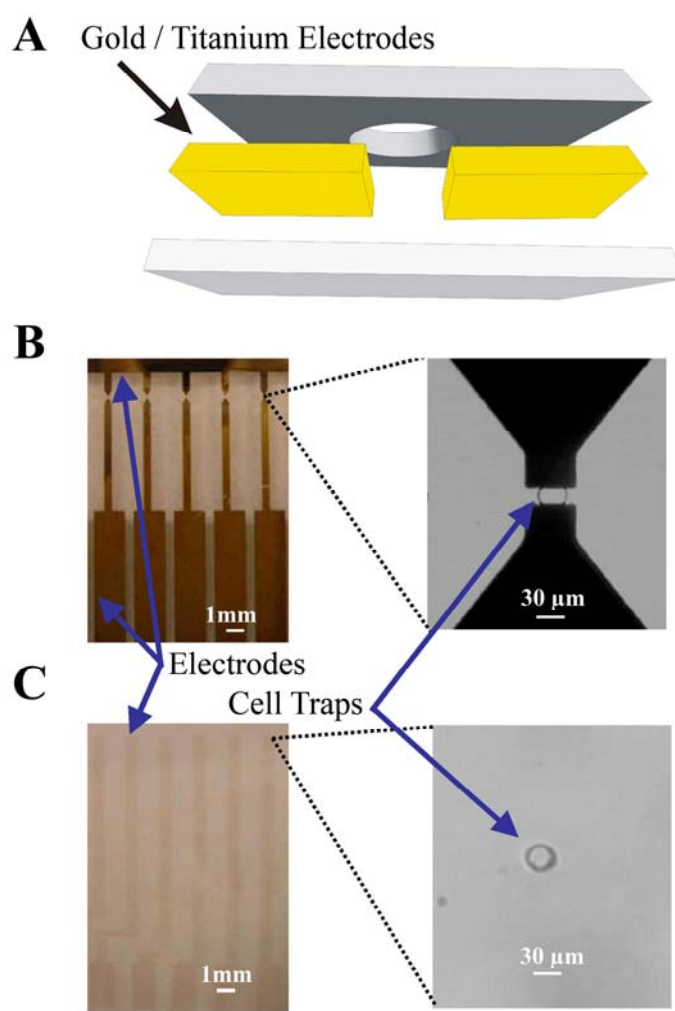

Fig. S2. Delamination of SU-8 on glass upon exposure to aqueous solutions. A, B)
3. **Fig. S2.** Delamination of SU-8 on glass upon exposure to aqueous solutions.